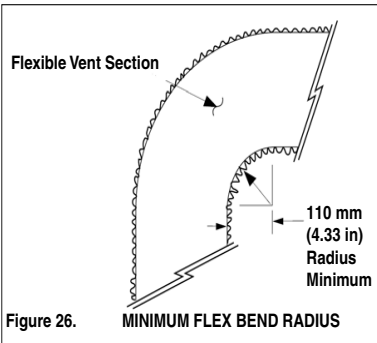

Figure 26.
*Minimum vent length is 0.34M (1 ft.) or in accordance with vent manufacturer's instruction, and local and national codes. Horizontal vents 1 m (3 in) or less in length do not require a condensate tee, but must slope down toward the outlet at 2 cm to the meter (1/4 in / ft.) to allow condensate to drain. ** Radius minimum to be 110 mm (4.33 in) as shown in Figure 26.